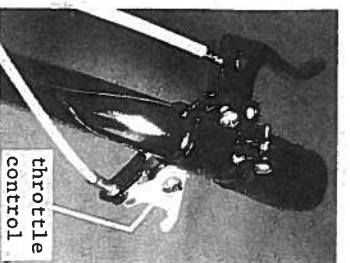

FIG. 13
- c. Hold throttle trigger (squeeze) in wide open position (figure 13).